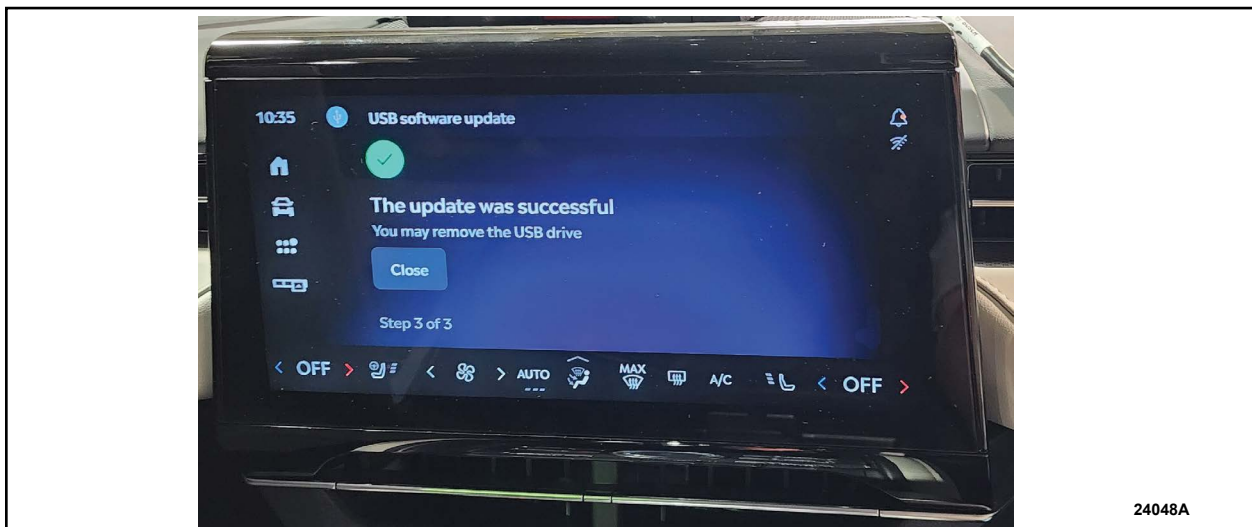

FIGURE 1
- d. De-selecting Quick Format is not necessary and will result in a lengthier operation. See Figure 1.
16. Update will be confirmed on center screen. See Figure 1.